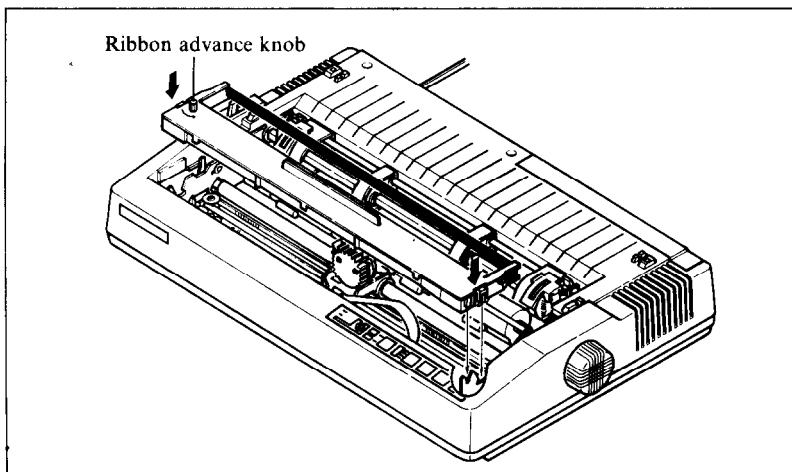

Figure 1-4. Press the cartridge into place until the holding springs snap into place.
4. With the ribbon facing away from you, use the guide holders as a fulcrum and lightly press the cartridge down until the two holder springs snap shut to hold the cartridge firmly in place. See Figure 1-4.